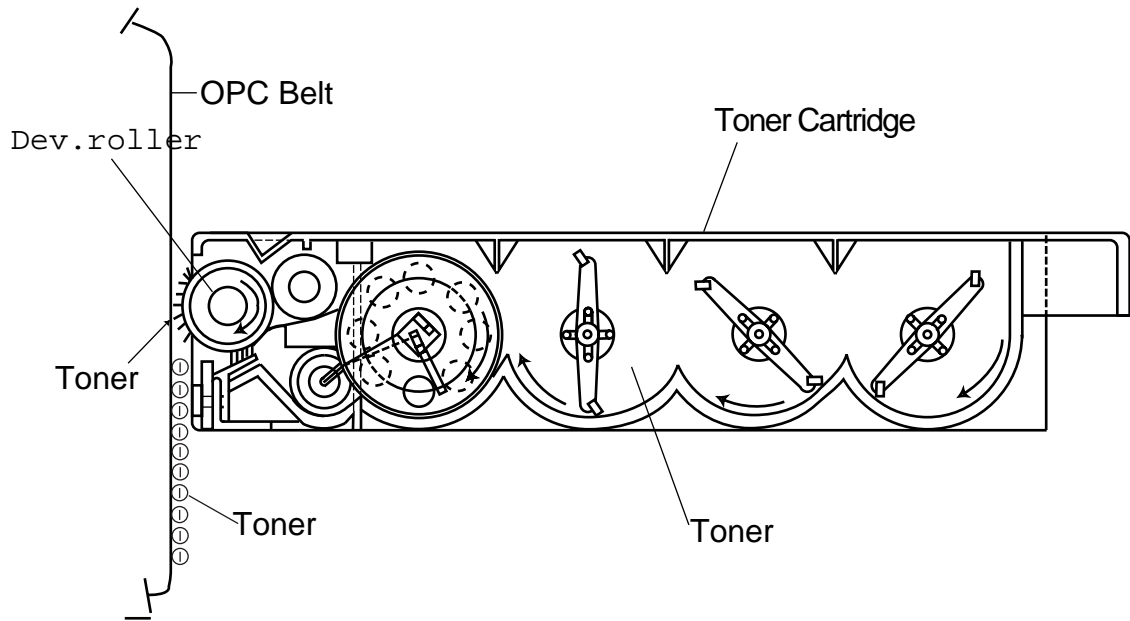

Fig.4-12
- ②. Four toner cartridges are made available from the top to bottom in the order of specified color as black, yellow, magenta and cyan.
- ③. Each color toner is loaded in the corresponding toner cartridge.
(2). Process of Developing (Fig.4-7 and Fig.4-12,-13,-14)
- ①. Toner adheres to the Dev.roller of toner cartridge.